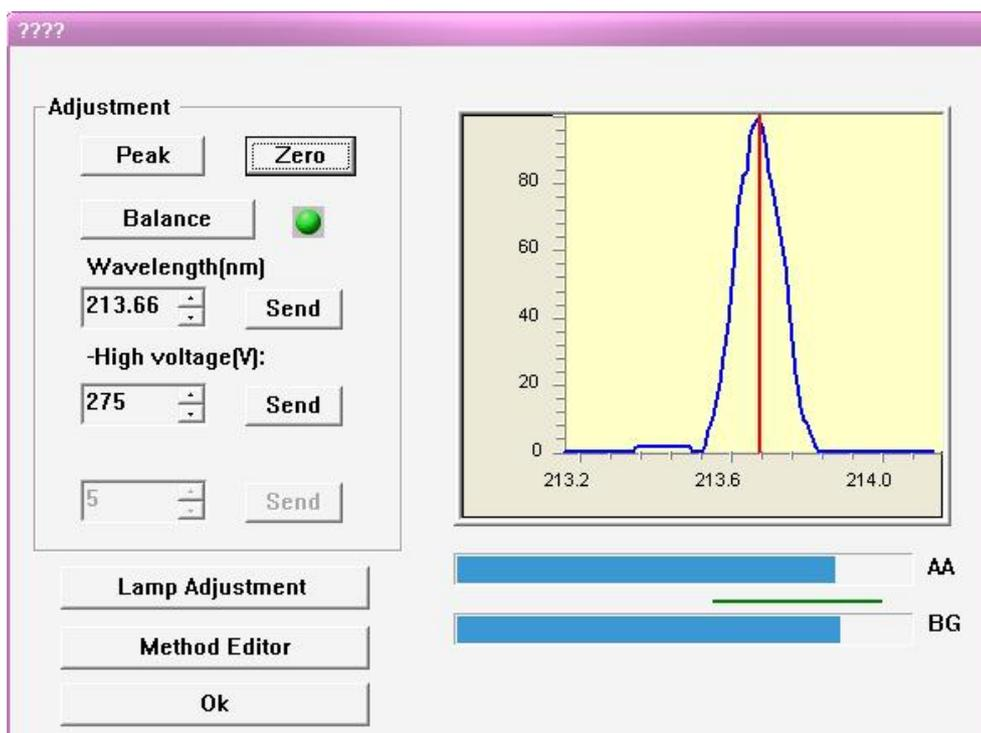

Figure 6-17
7. press **【Balance】** button ,display the figure 6-17